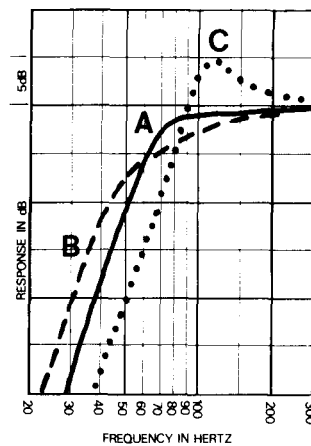

FIGURE 1
Figure 1 shows the computer generated curves depicting an Electro-Voice FORCE 10 speaker in a 1.4 ft³ enclosure. Curve A represents the predicted bass response with the enclosure tuned to the free air resonance of the speaker (65 Hz) and would be considered a classic B4 (Thiele's Alignment No. 5) enclosure.
Our third curve (C) in Figure 1 shows the effect of tuning the enclosure 1/2 octave above the free air resonance of 65 Hz or to 98 Hz.